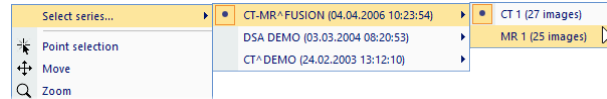

Figure 136 – Series selection using the context menu
2. Right-click to display its context menu (see Figure 136).